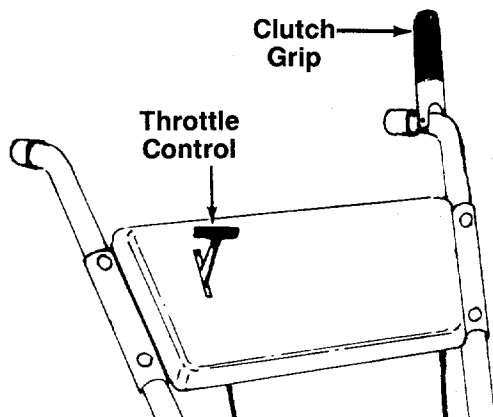

FIGURE 20.
2. Move the throttle control lever forward to FAST position. See figure 20.
Move throttle control lever to STOP position. See figure 20.
To engage the tines, squeeze the clutch grip. To stop the tines, release the clutch grip. See figure 20.
- 4. Throttle Control:** The throttle control lever adjusts the engine speed and stops the engine. With the throttle control knob pushed completely forward, the carburetor is in START position. Pulling the throttle control back slightly adjusts the engine speed to FAST. Pulling the throttle back further reduces the engine speed to SLOW. Pull the throttle completely back to stop the engine. See figure 20.